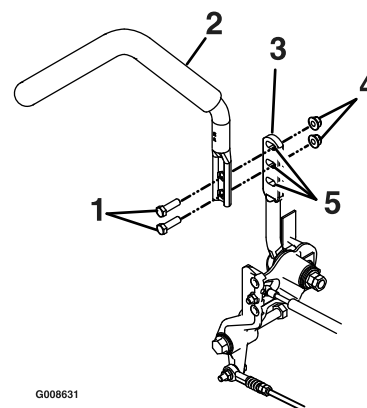

Figure 38
1. Remove the two bolts holding the control lever to the control arm shaft (Figure 38).
2. Loosen the lower bolt just enough to pivot the control lever fore or aft Figure 38. Tighten both bolts to secure the control in the new position.